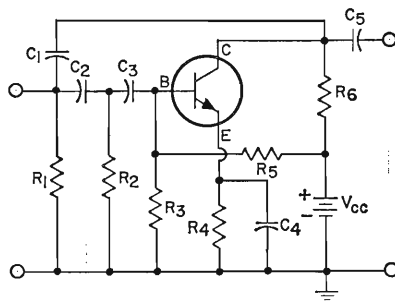

Figure 70. Transistor RC phase-shift oscillator.
A resistance-capacitance (RC) network is sometimes used in place of an inductance-capacitance network when phase shift is required in a transistor oscillator. In the phase-shift oscillator shown in Fig. 70, the RC network consists of three sections (C_1R_1 , C_2R_2 , and C_3R_3), each of which contributes a phase shift of 60 degrees at the frequency of oscillation. Because the capacitive reactance of the network increases or decreases at other frequencies, the 180-degree phase shift required for the common-emitter oscillator occurs only at one frequency; thus, the out-